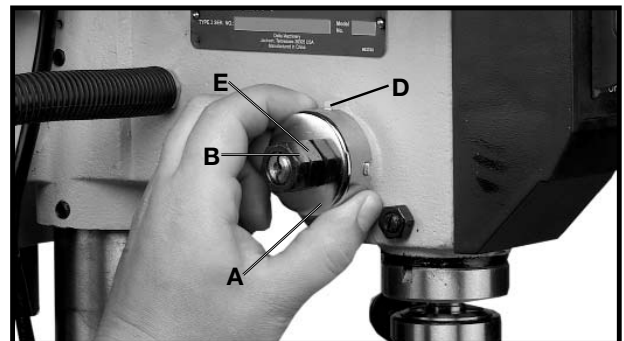

Fig. 29
3. While **FIRMLY HOLDING** spring housing (A) Fig. 29 pull out housing and rotate it until boss (D) is engaged with the next notch on the housing. Turn the housing counterclockwise to increase or clockwise to decrease spring tension. Turn nut (E) until it contacts spring housing (A), then back nut (E) out a 1/4 turn from spring housing (A). Tighten nut (B) against nut (E), to hold the housing in place. **IMPORTANT: Inside nut (E) should not contact spring housing (A) when tightened.**